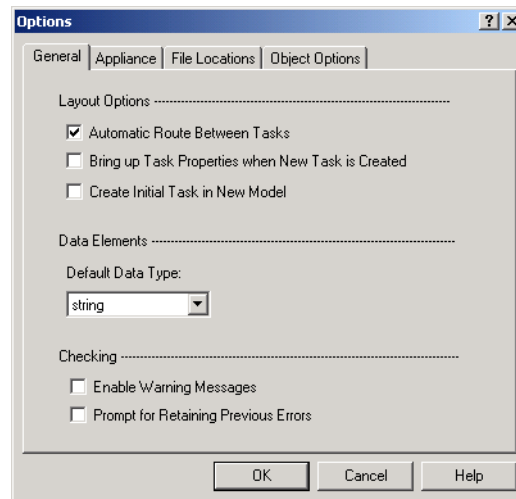

Figure 29-7. Options dialog with Auto Link checkbox selected.
- ❸ Click the **Tools** menu on the toolbar, then select **Options** from the drop-down list. The Options dialog appears.
- ❹ Make sure the **Automatic Route Between Tasks** checkbox is selected (Refer to Figure 29-7, below).